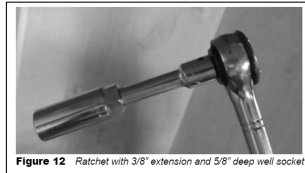

Figure 12 Ratchet with 3/8" extension and 5/8" deep well socket
7. Place a socket wrench with a 3-inch extension and a 5/8" deep well socket (Fig 12)